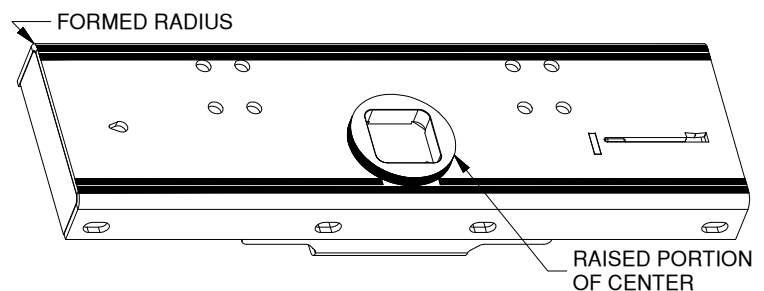

Figure B3: Polypropylene tape application.
2. **Apply polypropylene tape to center section.** As an added layer of protection, a roll of polypropylene tape is included in the mounting kit box. Apply the tape to the top of the center section as follows, see Figure B3: